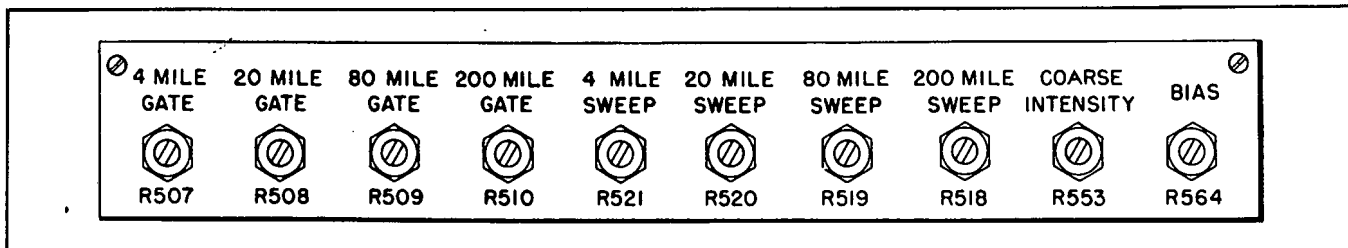

Figure 7-112. Alignment Controls in PPI Indicator
(2) With the ship's radar equipment supplying trigger voltage, turn the Indicator on and allow it to warm up. If the ship's radar equipment cannot be operated, some other source of trigger voltage should be connected to terminals 285-A and 01 which are located in the top of the Indicator Console case above the PPI Indicator.
(3) Connect a d-c vacuum tube voltmeter (Navy Model OBQ (Series) or equivalent) between the junction point of capacitor C-513 and C-538 and ground. Adjust potentiometer R-564 until the meter reads —65 volts. This control is shown in Fig. 7-112.
control, R-553, on the right side of the chassis as shown in Fig. 7-112, until a light clean line appears on the scope face. Lock the COARSE INTENSITY control R-553 in this position. Switch the RANGE SELECTOR knob to the other 3 positions successively, lowering the FINE INTENSITY control each time until approximately the same line intensity appears on the scope face. There should be adequate range on the FINE INTENSITY control to accomplish this test and blank the PPI tube on the 200-mile range. If this condition is not obtainable, circuit-check the unit for trouble.
(1) With the trigger applied to the equipment, observe the blanking pulse at the plate of V-501 on an oscilloscope such as Oscilloscope TS-34()/AP or equivalent. With the RANGE SELECTOR switch on the 80-mile range, observe how many scale divisions on the scale over the face of the oscillograph tube are occupied by a complete repetition or duty cycle. Then adjust R-509, shown in Fig. 7-112, until the positive pulse occupies one-fifth of the entire repetition cycle.
(2) Turn the RANGE SELECTOR switch to the 200-mile range. Adjust potentiometer R-510 until the positive pulse occupies approximately one-half of the entire repetition cycle (actually $\frac{1}{25}$ of it). Tentatively lock potentiometers R-507, R-508, R-509 and R-510. They will receive final adjustment later. These controls are shown in Fig. 7-112.
(1) Adjust potentiometers R-521, R-520, R-519 and R-518 on range positions 4, 20, 80 and 200 miles, respectively, until the sweep length runs out to just one-half inch from the edge of the cathode ray PPI tube. Tentatively lock all four controls. These controls are shown in Fig. 7-112 and are marked 4-, 20-, 80-, and 200-MILE SWEEP respectively.
(1) With the trigger applied, the RANGE SELECTOR switch at 80 miles, and the MARKERS control and INTENSITY control adjusted so that dots appear, adjust potentiometer R-509 (see Fig. 7-112) so that exactly 4 dots (not counting the center) appear
(2) Switch the RANGE SELECTOR to 200 miles and adjust potentiometer R-510 (200 MILE GATE) so that the fourth dot terminates the sweep. Now adjust potentiometer R-518 (200-MILE SWEEP) so that the fourth dot on both ranges coincide when the RANGE SELECTOR is rapidly shifted from 200 to 80. The other dots should also coincide very closely. Repeat this adjustment on the 20-mile range using potentiometers R-508 and R-520, and on the 4-mile range using potentiometers R-507 and R-521. When these adjustments have been finally made, all of the screwdriver controls on the right side bracket of the scope should be firmly locked. The adjustments just described are shown in Fig. 7-112.